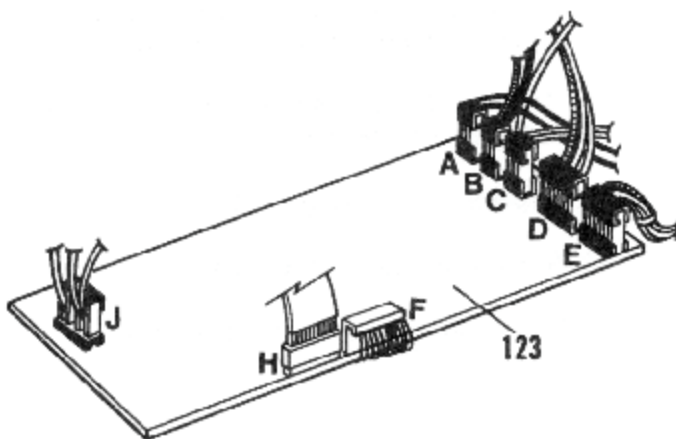
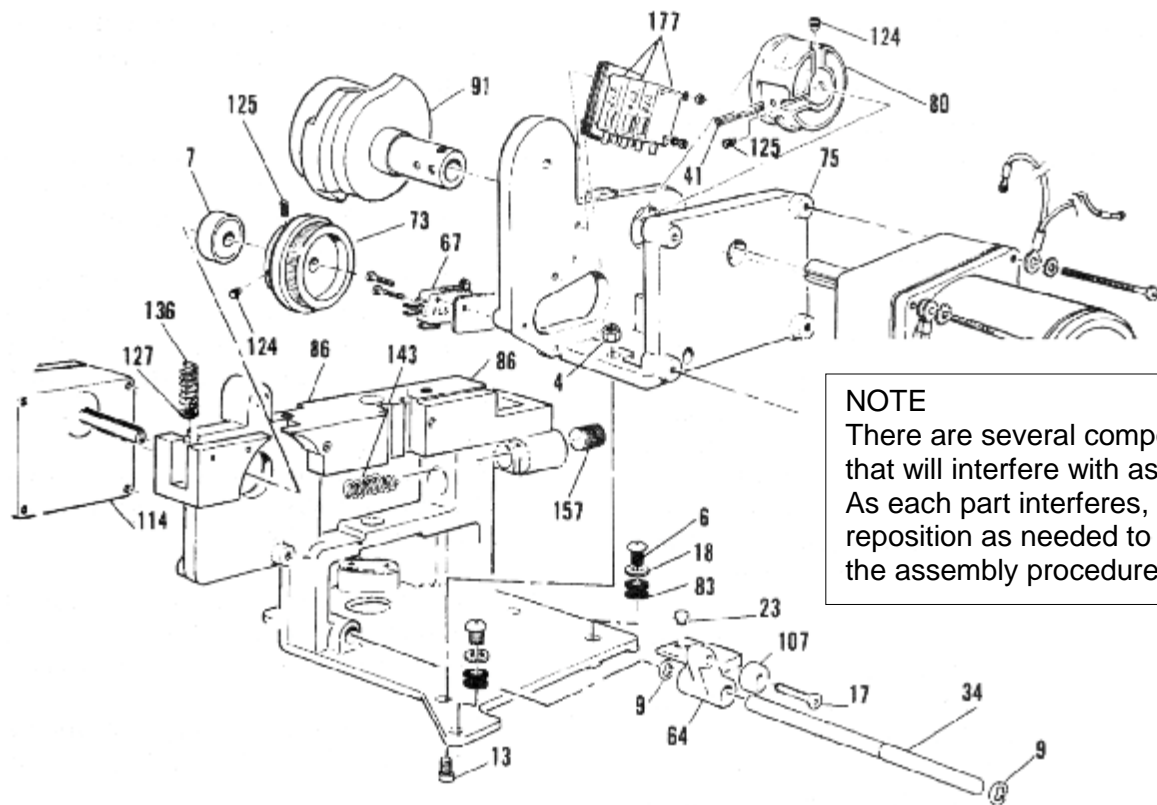

Figure 10 - Printed Circuit Board
Figure 11 - Feed and Control Components
(Figures 10,11,12 and 18)
4. Note that the hole for the dog point set screw (125) is in the same plane as the hole for the roll pin (41).
5. Align the keyway of the cam motor shaft with the hole for the dog point set screw (125) and insert the dog point screw.
6. Insert the cone point set screw (124) in the hole at right angles to the hole for item (125). Note: Apply 242 Loctite to each of the set screws and torque to 65 inch lbs.
7. Tap in the roll pin (41).
8. Insert the cam housing into the frame. Make sure the anvil lift arm (64) is in the proper position. See note above in Figure 11.
9. Secure the cam housing to the frame housing with two screws (13) and nuts (4).
10. Lifting the assembly at the frame housing, place it over the housing base mounting holes and secure tightly with the three screws (6), and washers (18).
11. Refer to Figure 10. Reconnect the harnesses to the connectors A, B, C, D, E, and F on the micro-board assembly.
(2MTR) (Figure 11)
(Figures 11 and 17)
(Figures 11,12, and 13)
1. Remove dispenser cover (48).
3. Loosen and remove the housing cover mounting screws (17) and lift the cover (50) from the machine.
4. With the right hand, press and hold the cycle start switch (81) until the weld portion of the cycle is complete. Place left hand on rocker switch, ready to turn power OFF. Release the cycle start switch and closely watch the control cam (91, see Figure 11). When the high point of the front lobe of the control cam makes contact with the cam bracket roller bearing (107), turn power OFF.
5. At this point, the end of the back-up wheel bracket should be pushed low enough to raise the front end of the bracket (104) to allow the strap to freely pass through the welding head without causing the back-up wheel roller bearing (107) to rotate. Press down on the back-up wheel bracket (104). There should be some over travel left in the bracket. If an adjustment is indicated, follow the steps below:
- A. Loosen the M8 x 32 socket head cap screw (141) that retains the eccentric pin (151) to the cam bracket (131).